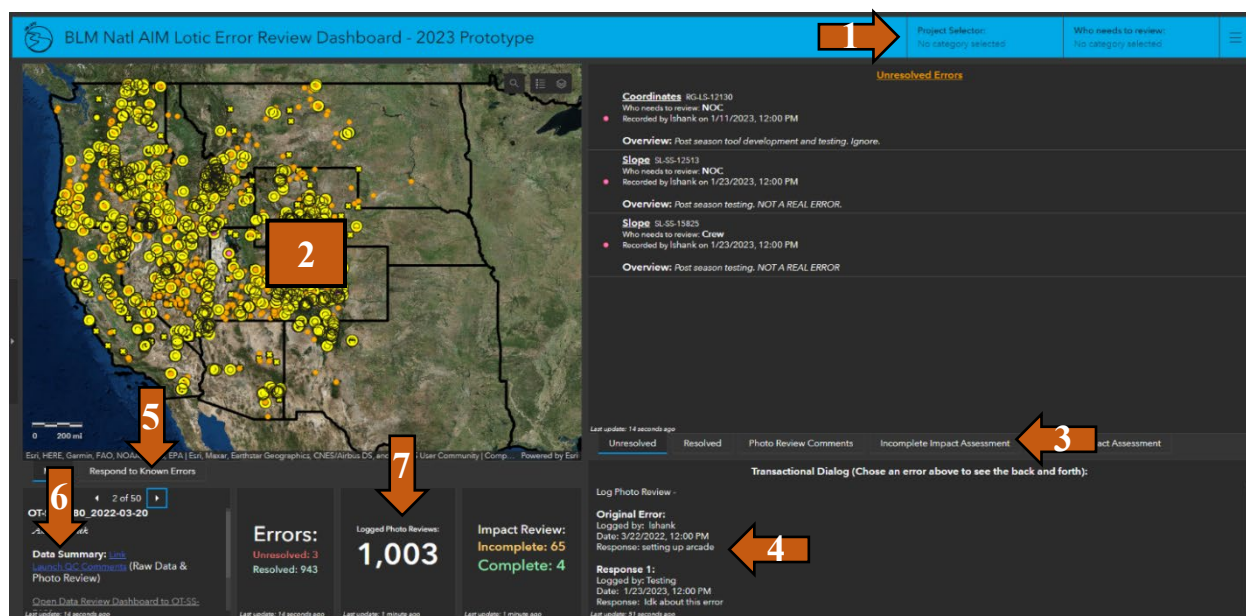

Figure 4. Screenshot of Error Review Dashboard
- Prior to reviewing data from the data collector's first trip, watch the QC webinar which covers detailed instructions on how to use the Error Review Dashboard. Only general instructions are provided below. The error review dashboard has the following key components (Figure 4):
- B. Use the blue bar at the top (Figure 4, Label #1) to filter points for a given project and your specific role (e.g., crew or project lead). Note for the role filters you can select multiple options from the dropdown. Selected options have a blue tab to the left.
- C. Review the “Unresolved Errors” and “Transactional Dialog” section on the right side of your screen (Figure 4, Label 4 & 5). This list will be filtered based off your choices in B above and will be sorted so that the oldest recorded errors are on the top of the list.
- b. The “Transactional Dialog” box (Figure 4, Label #5) displays what has already been looked into and what information is still needed to resolve the error. This should be reviewed before responding to errors in case there are additional details, questions, or resolutions logged.
- D. To respond to the error, while it is selected and blue in the Unresolved Errors section, click the “Respond to Known Error” tab in the center of the page (Figure 4, Label #6). This will open an embedded Survey form and will prepopulate it based off the prior individual’s responses.
- E. From the list in the “Unresolved Errors” section (Figure 4, Label #4), select the next error on the list and repeat through steps C-D until everything has been responded to.